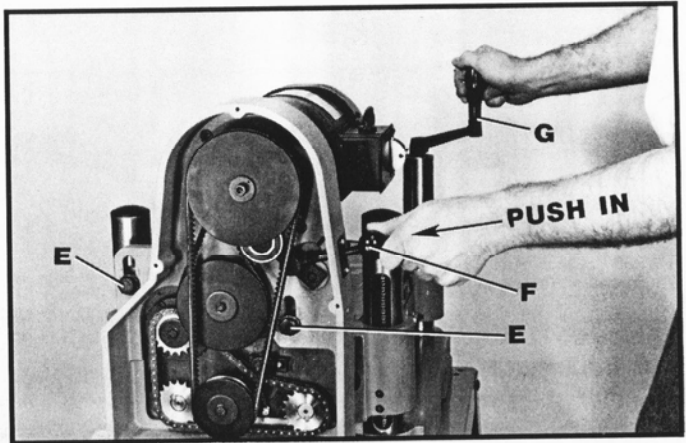
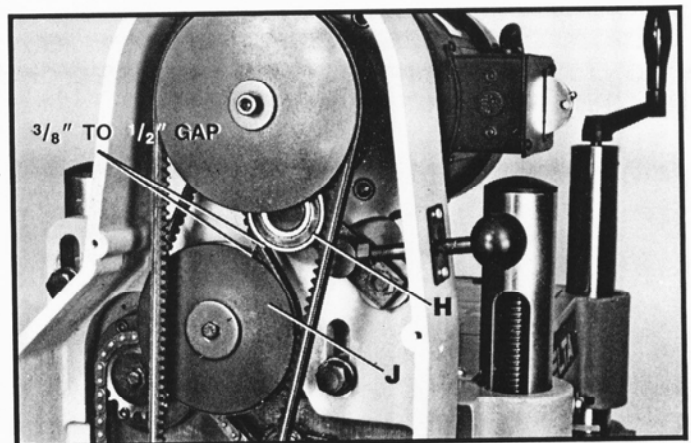

Fig. 13A
Fig. 13B
2. Loosen two bolts (E) Fig. 13A, that fasten the belt guard to the machine, lift up the feed roll engagement lever (F), and simultaneously push in firmly on the feed roll engagement lever (F) and lower the cutterhead by turning handle (G) counterclockwise until there is 3/8" to 1/2" space between bearing (H) Fig. 13B, and gear box drive pulley (J). Then tighten two bolts (E), Fig. 13A.